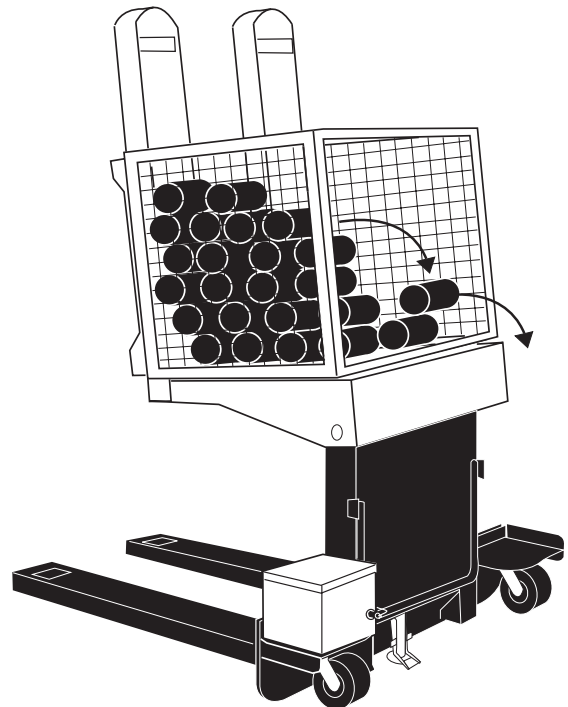

Fig. 6 Don't Overfill the Container
4. Sometimes the unit may be used to lift parts which can roll. If possible, stack the parts in the parts container so they cannot roll. Do not over-fill the lifting container. See Fig. 6. If the container is too full, some of the parts may roll out of the front of the container.